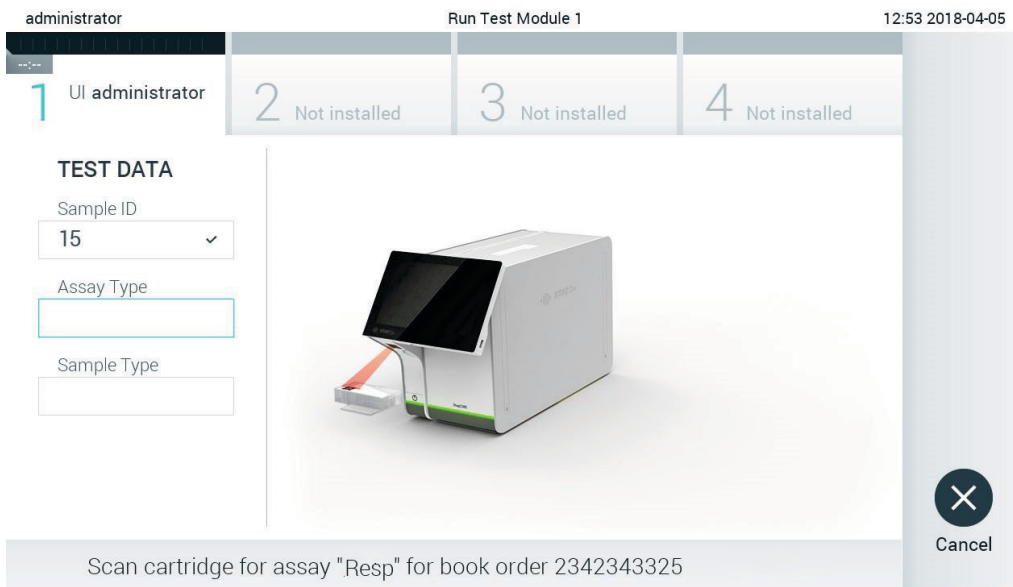

Figure 74. Scanning the QIAstat-Dx assay cartridge bar code.
- When the test order has been successfully received from the host, "Scan cartridge for assay <assay_name> and book order <order_number>" is displayed. Scan the bar code of the specified QIAstat-Dx assay cartridge (Figure 74).